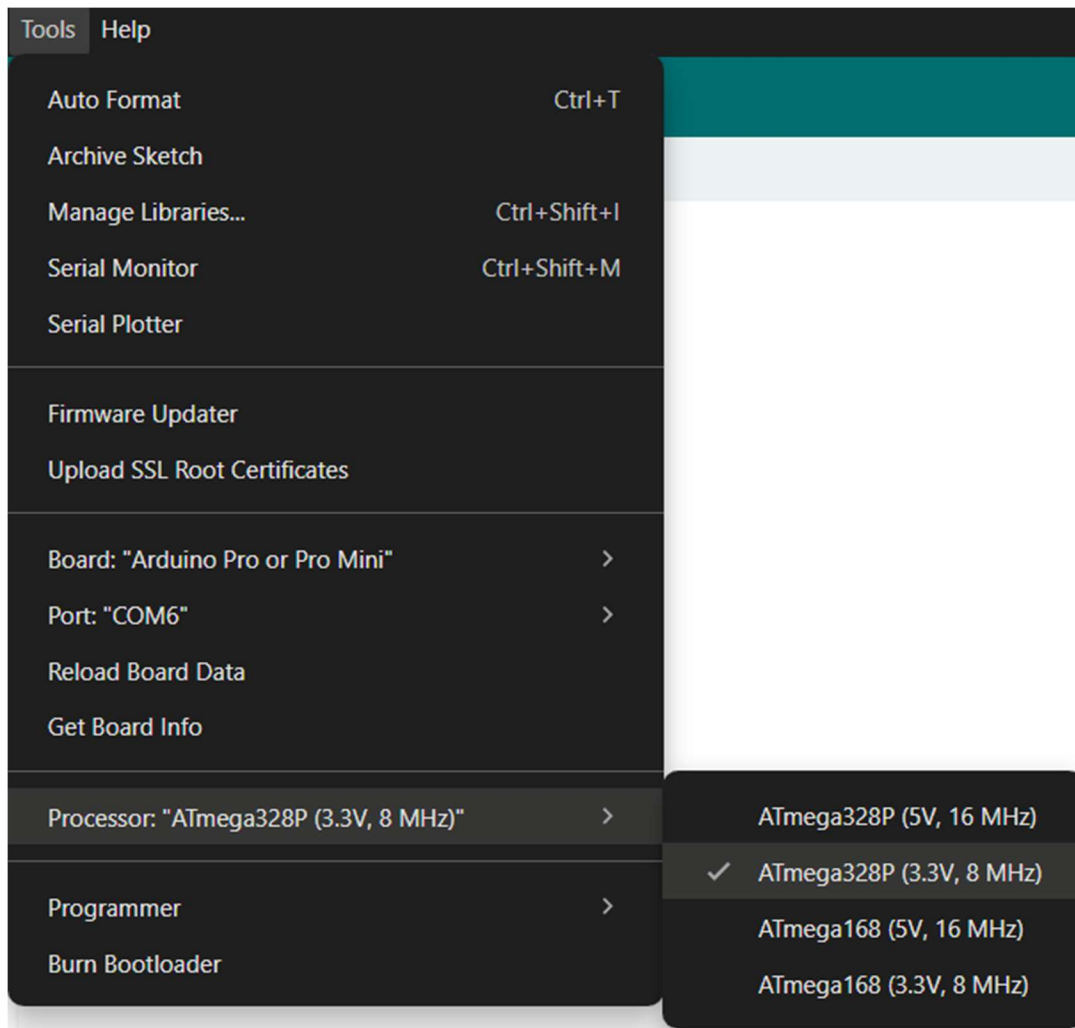

Figure 16: Processor selection for the Nano Flip 3V3.
- **Processor selection:** Under “Tools” and “Processor:” select “ATmega328P (3.3V, 8MHz)”, as shown in Figure 16. **NOTE:** Do not select the other options at 5V or 16MHz.